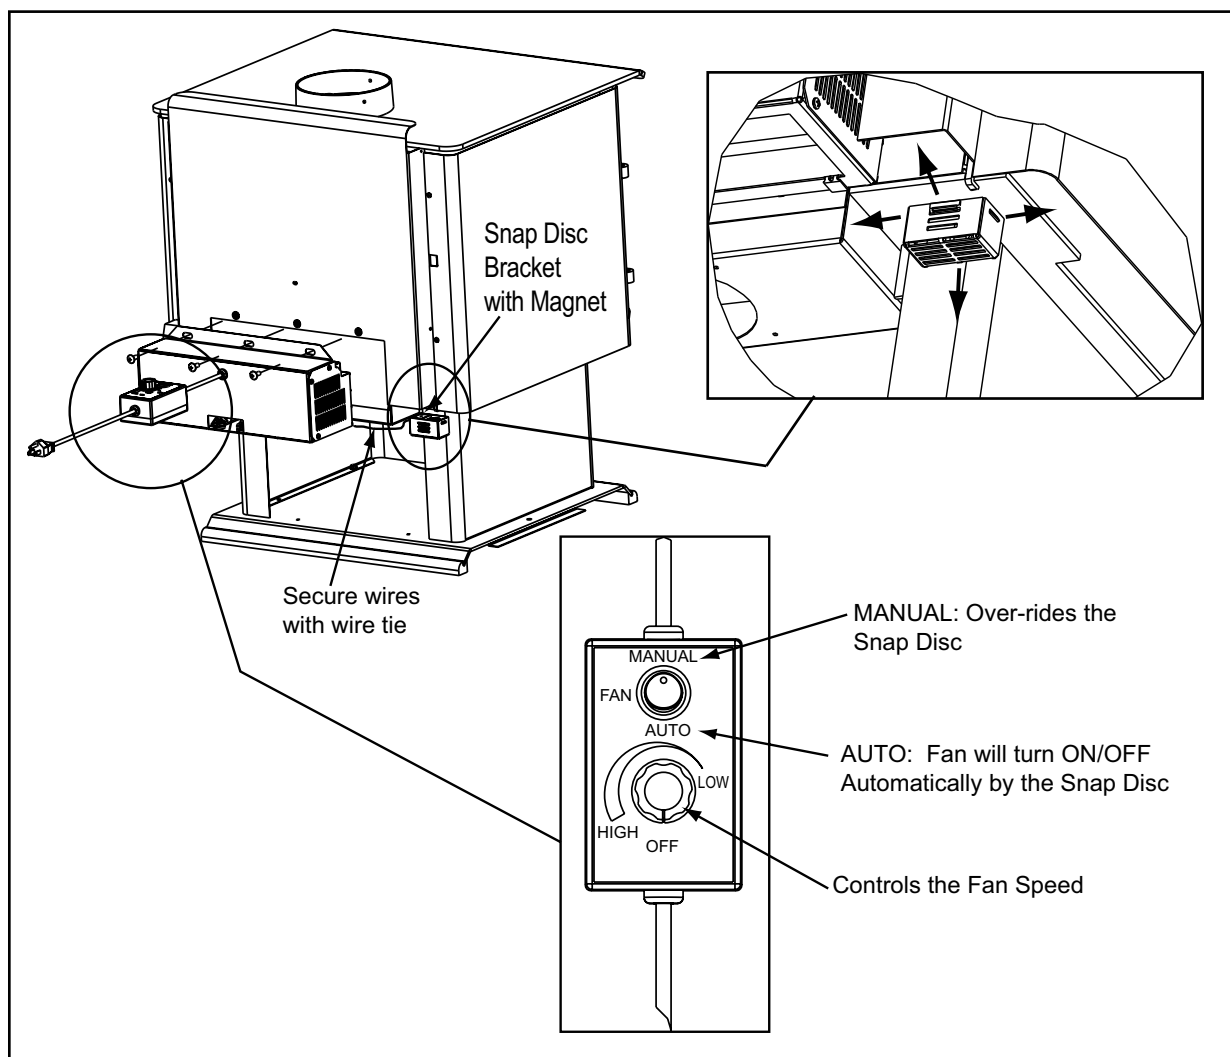

Figure 15.1
2. Align holes in mounting flange of blower with bolt holes in appliance. Blower should be positioned at bottom of rear outer skin as shown in **Figure 15.1**.
4. Place the bracket containing the snap disc and magnet under the bottom left rear corner as shown in **Figure 15.1**.